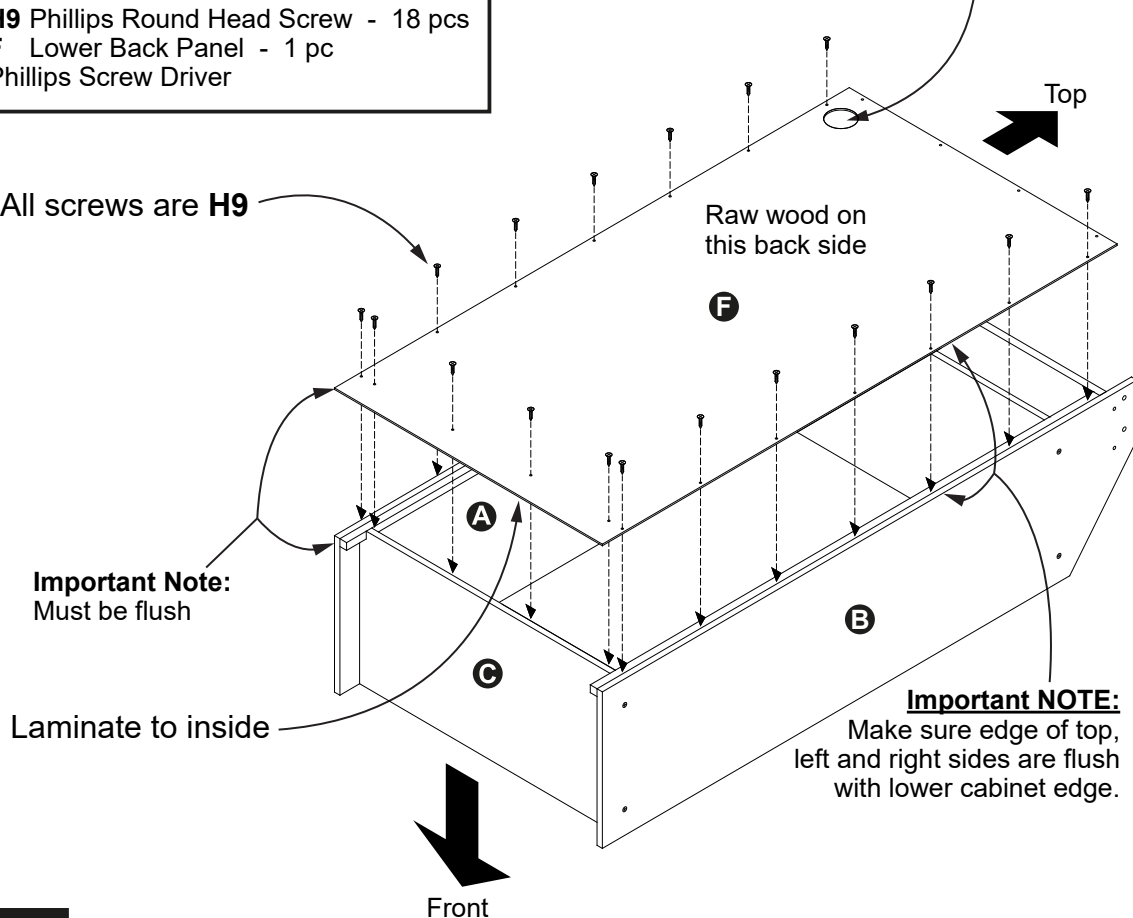

Figure 4
8. Carefully Flip the Lower Cabinet Assembly with front side face down onto the floor, then install Part **F** to back of Lower Cabinet Assembly using 18 pcs **H9** Phillips Round Head Screws (Screws installed to edge side of Part **A**, **B** & **C**. See **Figure 4**.